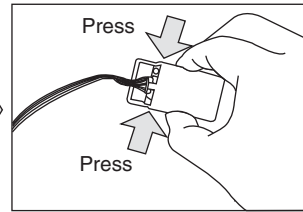

Figure 1.2
- Remove the top casing by pressing the side of the network adapter box. (Figure 1.2)